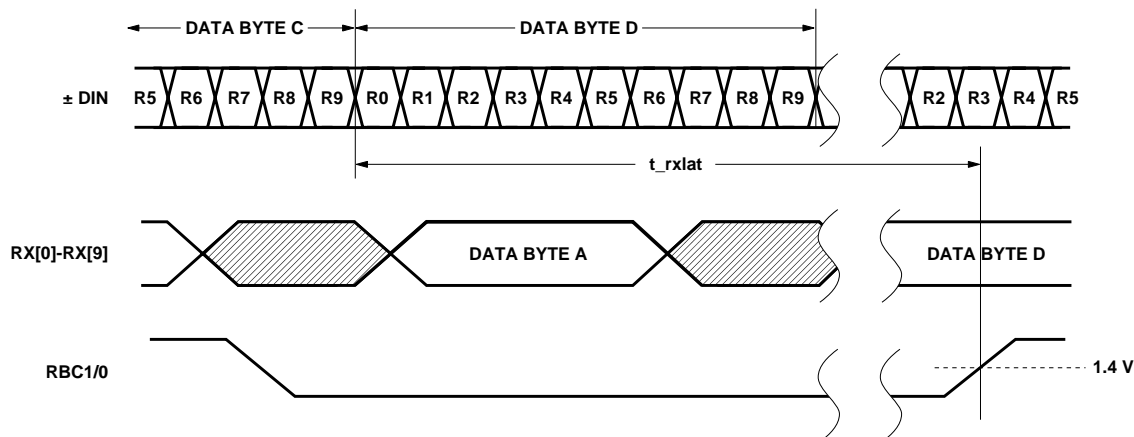

Figure 6. Receiver Latency.
5. The receiver latency, as shown in Figure 6, is defined as the time between receiving the first serial bit of a parallel data word (as defined as the first edge of the first serial) and the clocking out of that parallel word (defined by the rising edge of the receive byte clock, either RBC1 or RBC0).